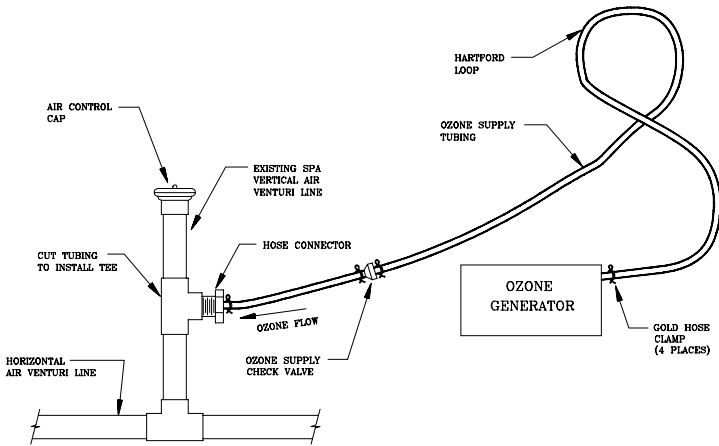
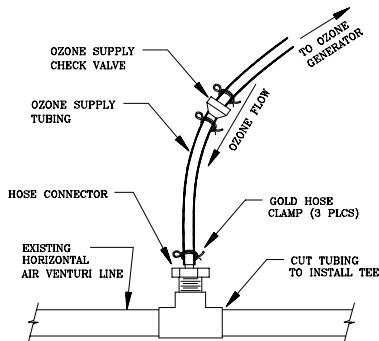
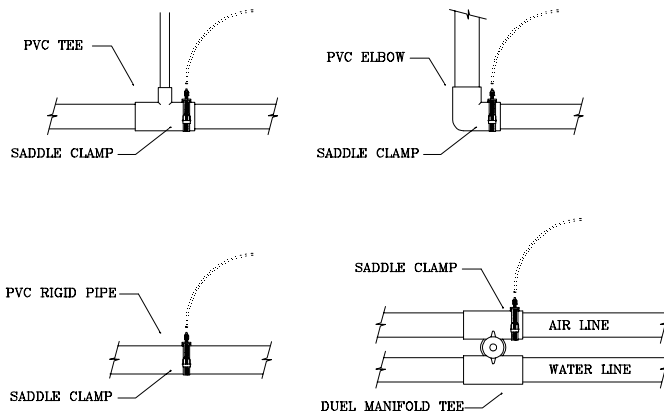
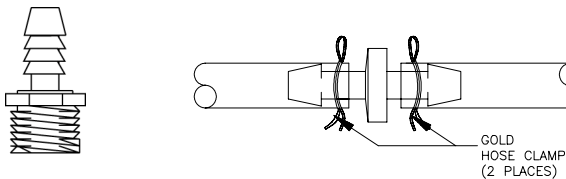

Figure 2: Vertical Air Venturi Line (Location “A”)
Figure 3: Horizontal Air Venturi Line (Location “B”)
Figure 4: Possible Saddle Clamp Locations
Figure 7: Plastic Hose Connector & Check Valve
**LOCATION "A" & "B" (see Figures 2 & 3):** These are the most common connection locations. The assembly procedures are the easiest and sufficient ozone dispersion is provided. They can be used if the air control valves completely close.
**LOCATION "C" (see Figure 2):** This location is used if the air control valve does not have a defined closed position.
Turn off the electrical power and drain the spa at least 12 inches below the selected “A” (Figure 2) or “B” (Figure 3) location. The installation instruction for locations “A” & “B” are identical except that location “A” utilizes a vertical air venturi line and location “B” utilizes a horizontal air venturi line. Use the spa’s venturi air line which provides the best suction and is connected to the lowest jet. (See NOTE on page 5).
**NOTE:** The saddle clamp assembly (Figure 4) may be used if the spa is plumbed with rigid PVC pipe or if there are any rigid locations on the air venturi line such as a tee or elbow fitting. Saddle clamps can be ordered through your local dealer using DEL part number 9-0001. If the spa is plumbed with flexible PVC pipe, an appropriately sized PVC tee fitting, with the center having 1/2” female threads (not included) must be installed (see Figure 3). The plastic hose connector threads into the tee fitting.
A plastic hose connector installed onto the air venturi line may be used when the spa is not "ozone ready". The plastic hose connector can be purchased from your dealer using DEL part number 7-0127 (see Figure 7). Select a convenient location, that provides enough room to work, to install the PVC tee fitting with 1/2" female threads (not included). Cut the existing air venturi line at the selected "A" or "B" location (see Figures 2 & 3). Glue the fitting into place. Be sure to use "FLEX-TO-RIGID" PVC Cement. Wrap Teflon tape on the plastic hose connector threads and install into the tee fitting.
If no other installation location is available on your spa, a saddle clamp assembly can be utilized. Please contact your local dealer to order DEL part number 9-0001. To use the saddle clamp assembly, find a suitable location to secure it. Possible locations are shown in Figure 4. Be sure the chosen location is part of the air venturi system and that there is enough clearance to tightly secure the saddle clamp. Drill a 3/8" diameter hole at the chosen location. BE CAREFUL not to drill through the back of the pipe or fitting. Push the nipple into the hole and secure by tightening down the saddle clamp.
Make sure the water flow arrow on the ball valve is pointed toward the spa. Locate the plastic hose connector, wrap 3 layers of teflon tape on the threads (do not use thread sealant), and install it hand tight into 1/2" female pipe thread fitting of the DEL Rigid Injector Manifold. Tighten the plastic hose connector 1/2 turn with a wrench. Secure one end of the ozone supply tubing to the barb end of the plastic hose connector with a supplied gold hose clamp. Locate the ozone supply check valve and install it into ozone supply tubing by cutting tubing in two separate places approximately 4' from the ozone generator and insert the check valve between each cut, securing both ends of the check valve with gold hose clamps as shown in Figure 7.